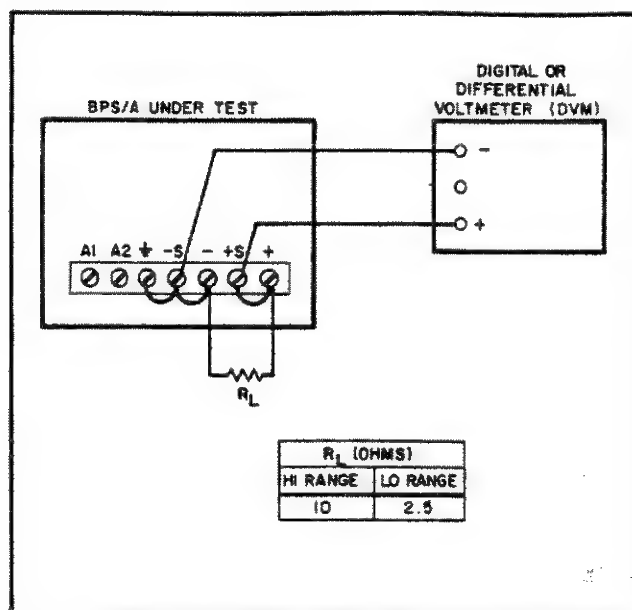

Figure 5-1. Power Supply Mode Test Setup
- Connect high range load resistor (R_L) across output terminals (see Figure 5-1).
- Turn off BPS/A. Change load resistor R_L to low range value (see Figure 5-1) and set RANGE switch to X1.
- Connect the test setup shown in Figure 5-1. Use high range (X4) load resistor value.
- Connect the test setup shown in Figure 5-1. Use the high range (X4) load resistance value.